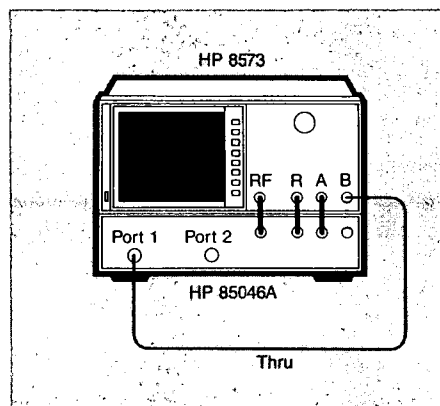

Figure 13. Setup for calibration to input B.
1. Connect the instrument as shown in Figure 13. Preset the instrument. Channel 1 will display the frequency for which 1 dB gain compression first occurs. Channel 2 will display amplifier output power to allow easy determination of the 1 dB gain compression output power.
3. Since the output power of an amplifier is important, the loss through the test set between the amplifier output and the receiver input needs to be characterized. To do this, first perform a response calibration on channel 2 as shown in Figure 13.
To do this, first perform a response calibration on channel 2 as shown in Figure 13.